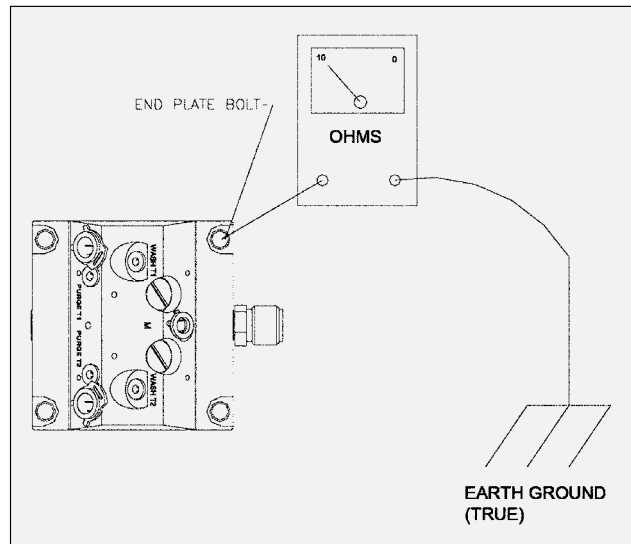

Figure 14: Ground Test
14. With an ohmmeter, check for conductivity between the output plate on the color changer and earth ground. There should be 10 ohms or less between the two points (see Figure 14).